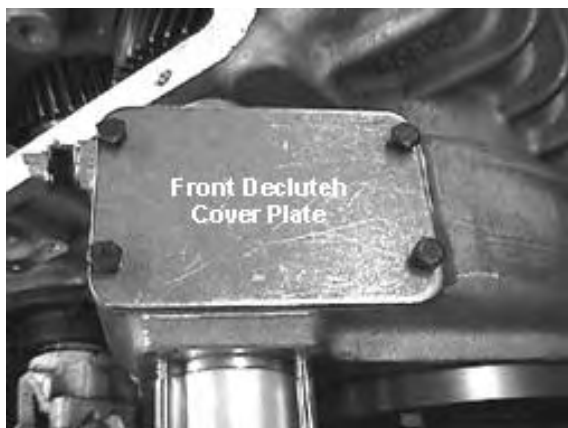

Fig. 85
44. Install front declutch cover plate using Loctite #242 on bolt threads. Torque to spec. *See Fig. 85.*